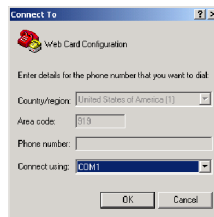

Figure 6. Select Connection
5. Select the appropriate serial connection (such as COM1). See Figure 6.